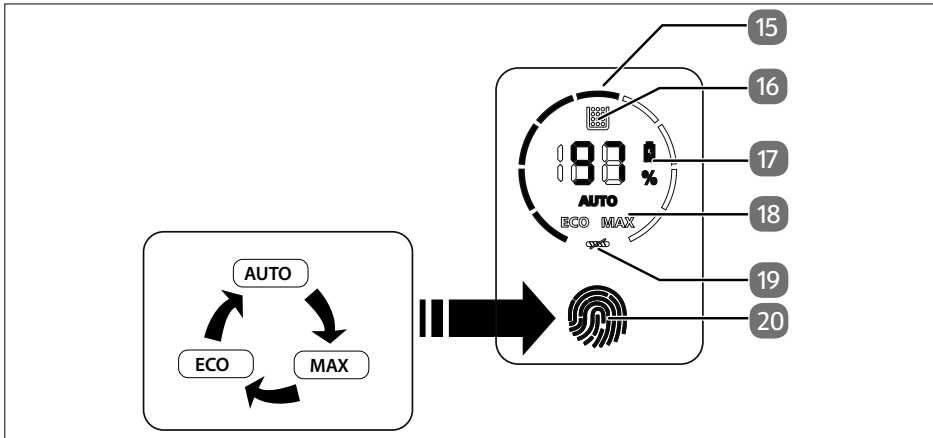

Fig. 2 – Controls
2. Switch on the vacuum cleaner by pressing and holding the on/off switch (21). Lock the on/off switch by pressing the lock button (22).
4. Touch the control field (20) to set the **Auto**, **Max** or **Eco** function mode. The respective motor power is shown on the display (15) (see Fig. 2).